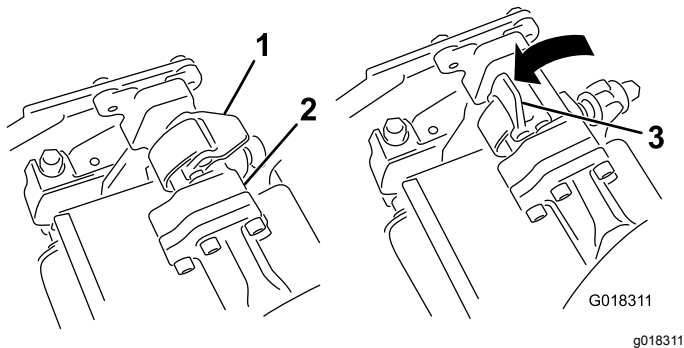
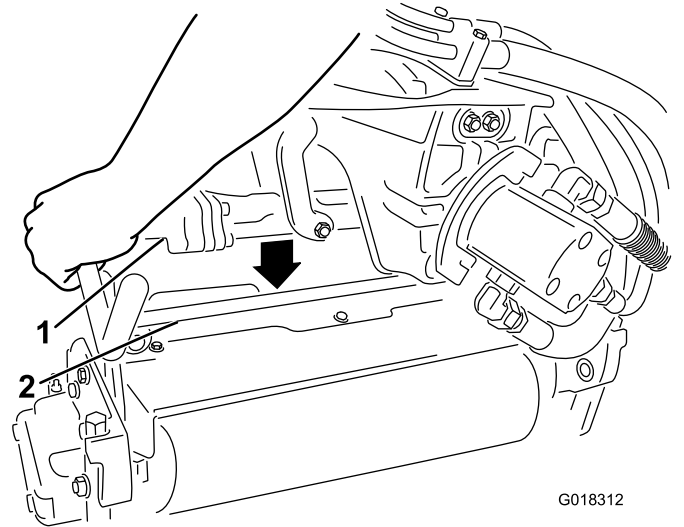

Figure 1
Figure 2
3. With the latches on the suspension-arm bar pointing up (Figure 1), push the suspension arm down so that the bar fits over the bar across the top of the tri-roller unit (Figure 2).
4. Close the latches down and around the tri-roller unit and lock them in place (Figure 1).